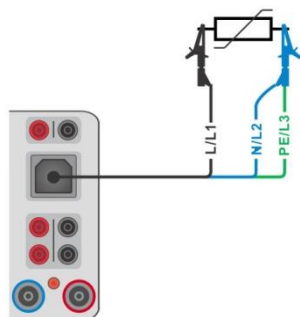

Figure 6.35: Connection of 3-wire test lead
- › Connect 3-wire test lead to object under test, see **Figure 6.35**.